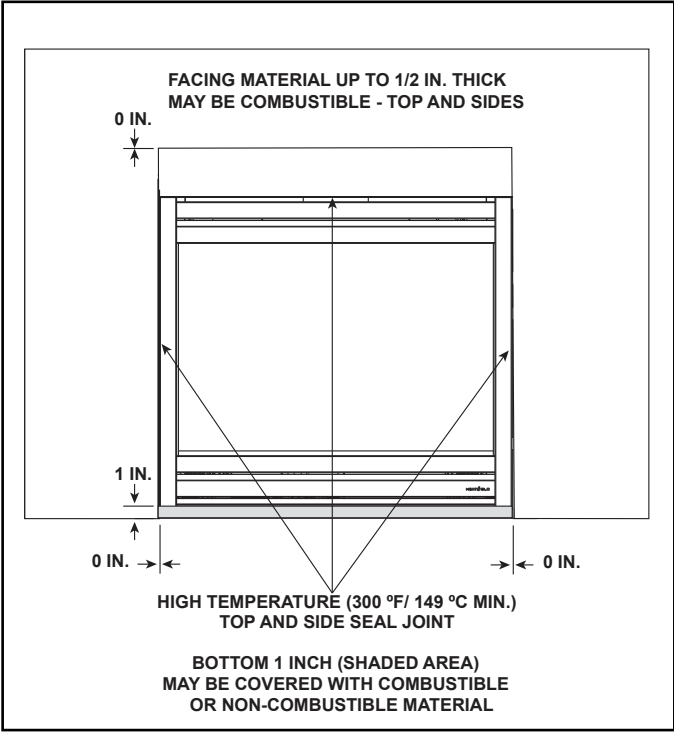

Figure 13.4 Facing Materials
- Seal joints between the finished wall and appliance top and sides using a 300 °F minimum sealant. Refer to Figure 13.4.